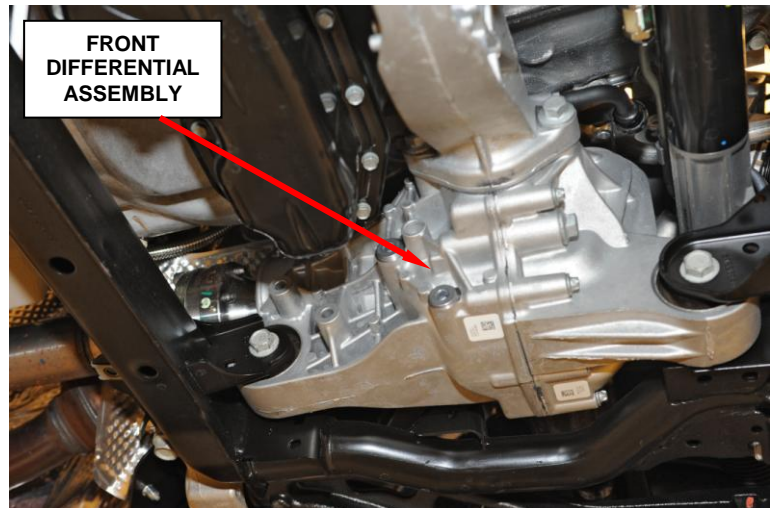

Figure 5 – Front Differential Assembly
52. **If equipped with AWD**, remove and save the front differential assembly (Figure 5).